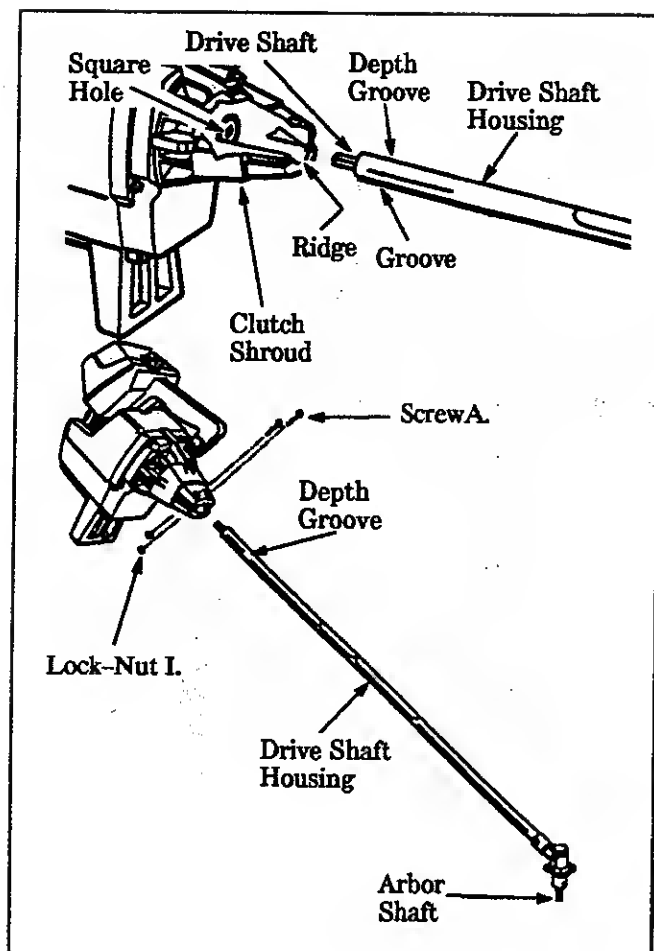

Figure 2
1. DRIVE SHAFT HOUSING (Figure 2)
- Place the two Screws "A." into the holes on the Clutch Shroud as shown in Figure 2.
- Align the bottom groove on the Drive Shaft Housing with the ridge on the inner, lower wall of the Clutch Shroud opening. Figure 2.
- Tighten Screws "A." alternately until secure. Figure 2.